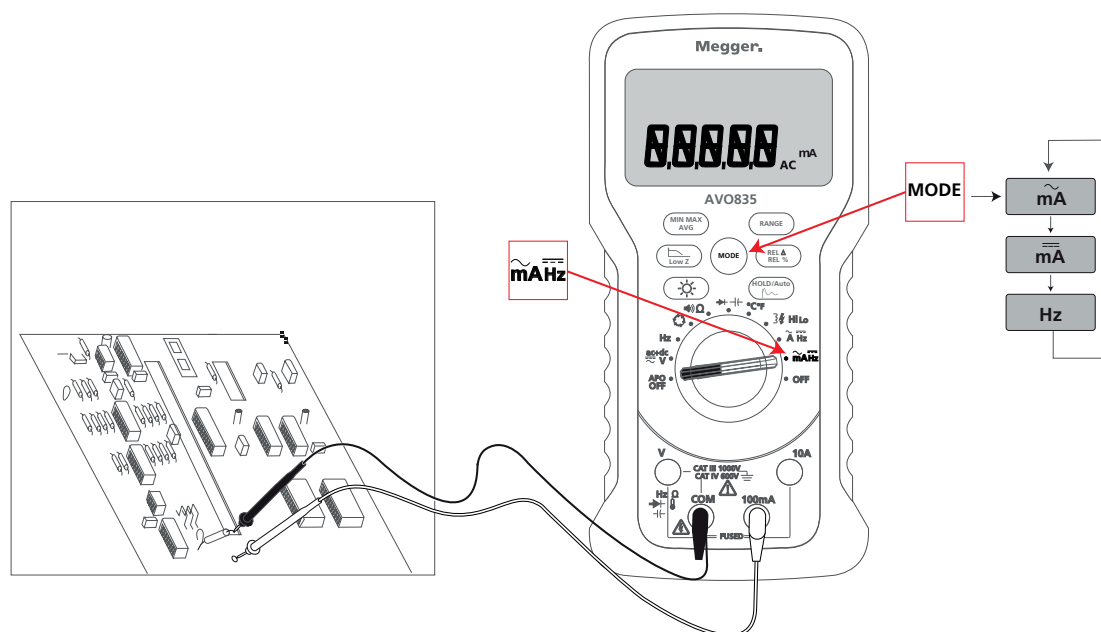

Fig 13: ≤ 100 mA Measurement Set-up
1. Set-up the instrument as shown in Fig 13.